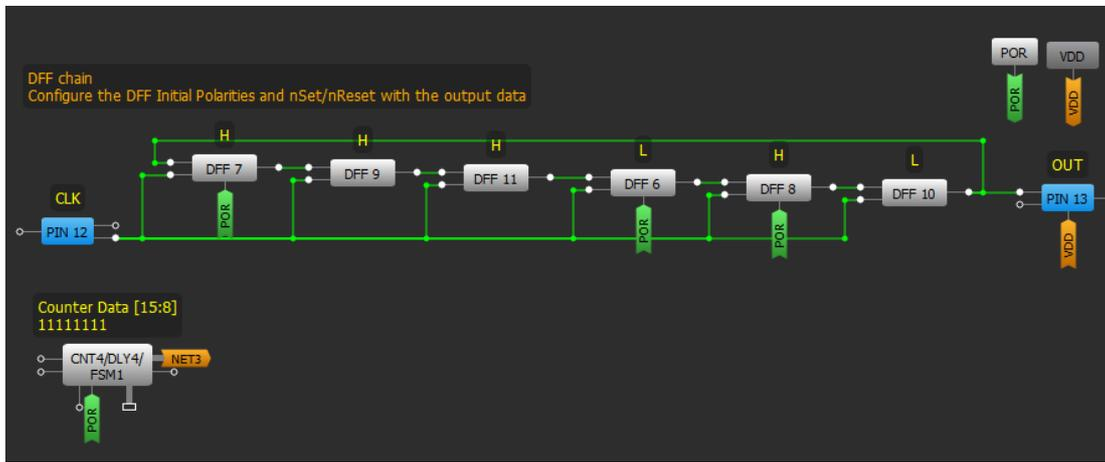

Figure 8. Matrix 1
- Make matrix connections as shown in Figure 8